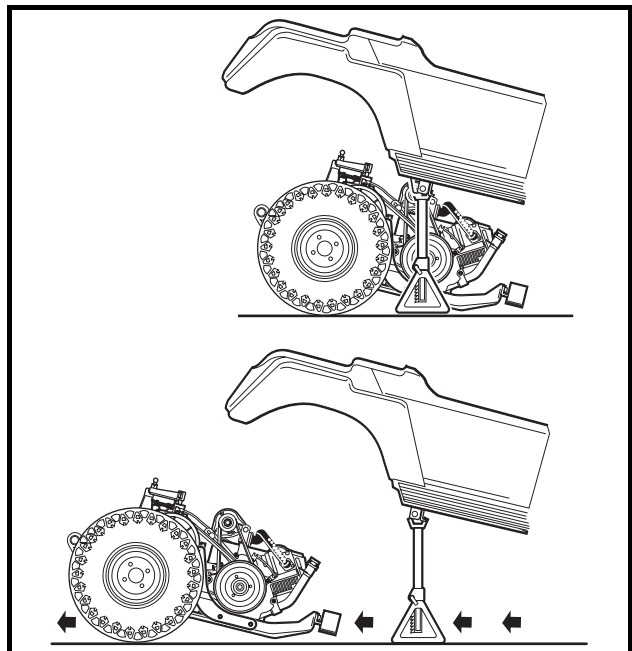

Figure 19-27 Remove Powertrain
14. Grasp the ends of the leaf springs at the rear of the vehicle and roll the powertrain out from under the vehicle (**Figure 19-27, Page 19-11**).